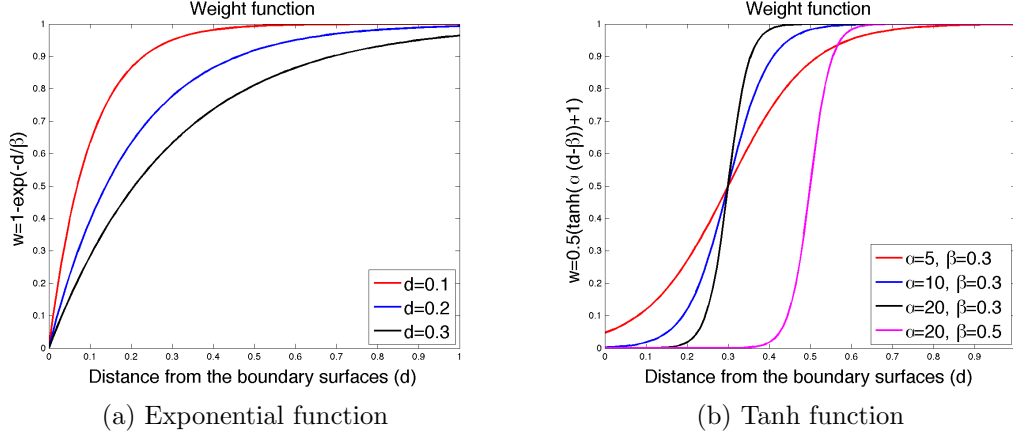

Figure 1: Weight function with different parameters
1. The values of α and β can be changed depending on how much movement the user wants to allow near the boundary surfaces. By default $\alpha = 15$ and $\beta = 0.2$ for the exponential and tanh based function. Figure 1(a) and (b) shows how w changes for different values of α and β .